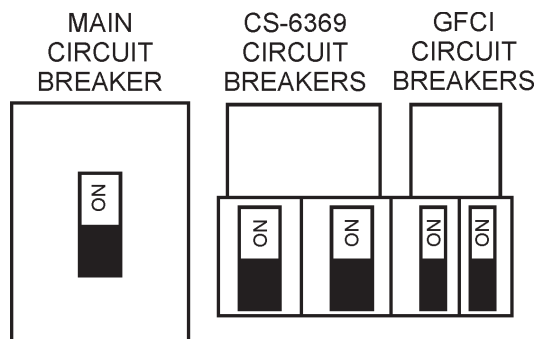

Figure 29. Main, Aux. and GFCI Circuit Breakers (ON)
6. Place the **main, G.F.C.I., and aux.** circuit breakers (Figure 29) in the **ON** position. Voltage is now available at the output terminals and receptacles.